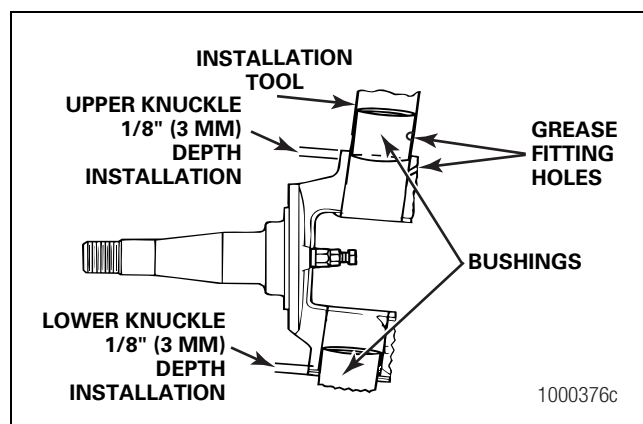
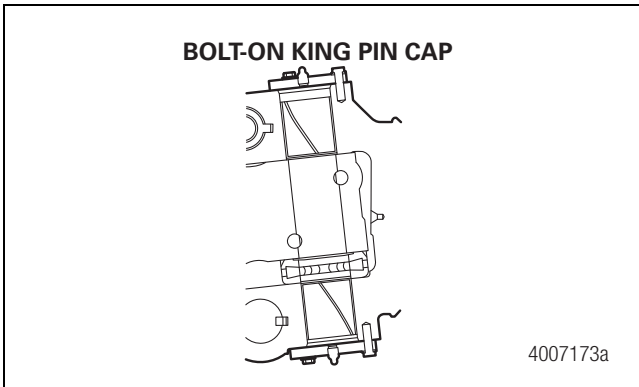
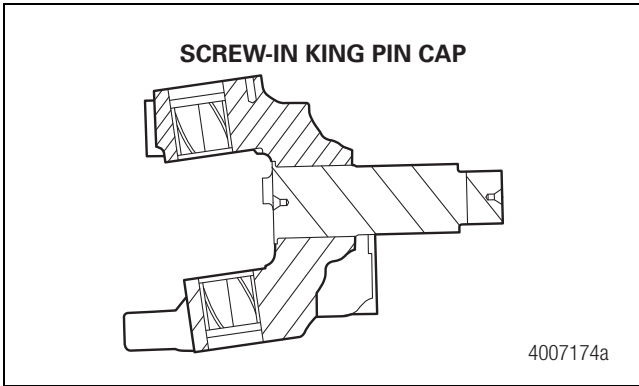

Figure 1
Figure 2
Figure 3
1. Use a seal installer tool to press the upper king pin bushing approximately 1/8-inch straight into the knuckle bore and release the pressure. Press the bushing to the correct depth as indicated in Table A. Figure 1, Figure 2 and Figure 3.